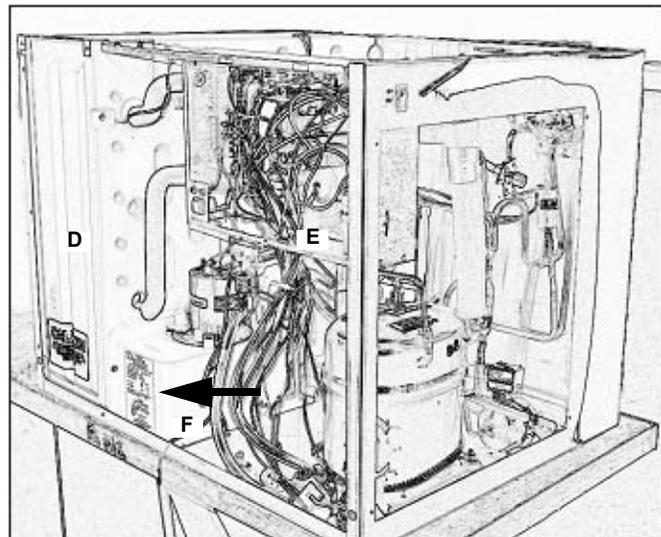

Figure 7.
3. Remove the evaporator splash panel (D) and control box cover (E) [not shown] (Figure 7).
The refrigerant type and charge are indicated on the serial plate, located on the water pan (F) (Figure 7). This charge amount does **NOT** include that which is normally present in a factory charged condenser or line set.